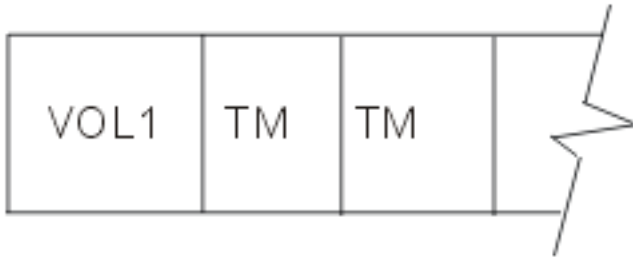

Figure 3. Volume label and tape marks
In Figure 3 on page 5, the INZTAP command gives the tape a volume label (marked VOL1) and writes two tape marks (TM).